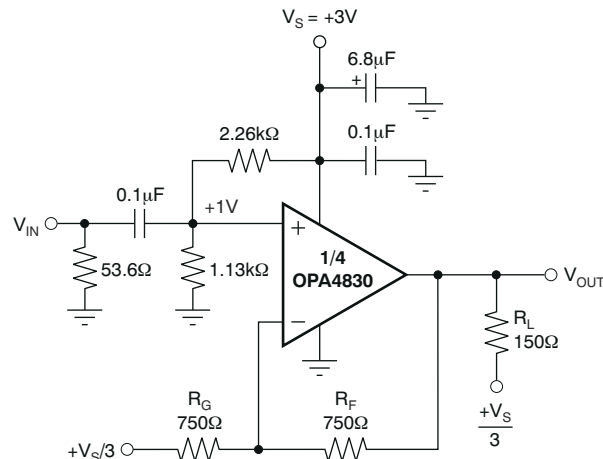
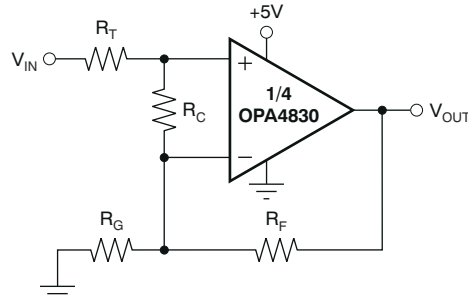

Figure 8-2. AC-Coupled, $G = +2V/V$, +3V Single-Supply Specification and Test Circuit
Figure 8-7. Compensated Noninverting Amplifier
at $T_A = 25^\circ C$, $G = +2V/V$, and $R_L = 150\Omega$ to $V_S/3$ (unless otherwise noted); see also Figure 8-2
at $T_A = 25^\circ\text{C}$, $G = +2V/V$, and $R_L = 150\Omega$ to $V_S/3$ (unless otherwise noted); see also Figure 8-2
Figure 8-2 shows the ac-coupled, gain of +2V/V configuration used for the +3V electrical and typical characteristics. For test purposes, the input impedance is set to 50Ω with a resistor to ground. Voltage swings reported in the *Electrical Characteristics* $V_S = 3V$ are taken directly at the input and output pins. For the circuit of Figure 8-2, the total effective load on the output at high frequencies is $150\Omega \parallel 1500\Omega$. The 1.13kΩ and 2.26kΩ resistors at the noninverting input provide the common-mode bias voltage. The parallel combination equals the dc resistance at the inverting input (R_F), reducing the dc output offset as a result of input bias current.
Figure 8-7 shows a noninverting amplifier that reduces peaking at low gains. The resistor R_C compensates the OPA4830 to have higher noise gain (NG), which reduces the ac response peaking (typically 5dB at $G = +1V/V$ without R_C) without changing the dc gain. V_{IN} needs to be a low-impedance source, such as an op amp. The resistor values are low to reduce noise. Using both R_T and R_F helps minimize the impact of parasitic impedance.
Frequency response in a gain of $+2V/V$ can be modified to achieve exceptional flatness simply by increasing the noise gain to $3V/V$. One way to do this, without affecting the $+2V/V$ signal gain, is to add a $2.55k\Omega$ resistor across the two inputs (see Figure 8-7). A similar technique can be used to reduce peaking in unity-gain (voltage follower) applications. For example, by using a 750Ω feedback resistor along with a 750Ω resistor across the two op amp inputs, the voltage follower response is similar to the gain of $+2V/V$ response of Figure 8-2. Further reducing the value of the resistor across the op amp inputs further dampens the frequency response because of increased noise gain. The OPA4830 exhibits minimal bandwidth reduction going to single-supply ($+5V$) operation as compared with $\pm 5V$. This minimal reduction is because the internal bias control circuitry retains nearly constant quiescent current as the total supply voltage between the supply pins changes.
The criterion for setting this R_S resistor is a maximum bandwidth, flat frequency response at the load. For a gain of +2, the frequency response at the output pin is already slightly peaked without the capacitive load, requiring relatively high values of R_S to flatten the response at the load. Increasing the noise gain also reduces the peaking (see Figure 8-7).